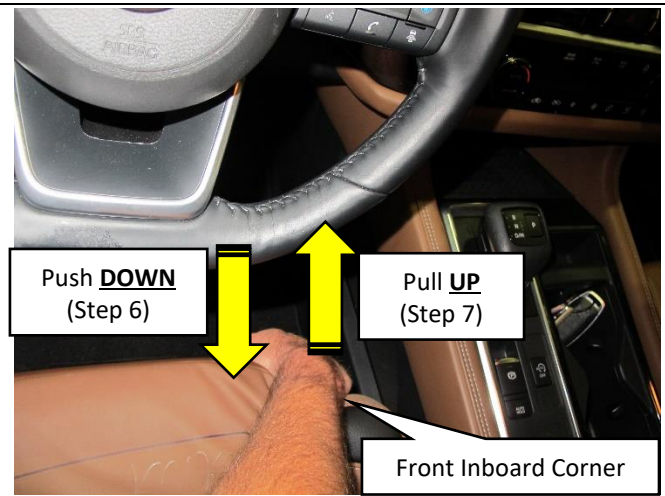

Figure 7
5. Without sitting in the driver seat, position your right hand under the front inboard corner (center console side) at the J-clip location shown in Figure 7.
6. Push down on the front inboard corner of the seat (Figure 7).